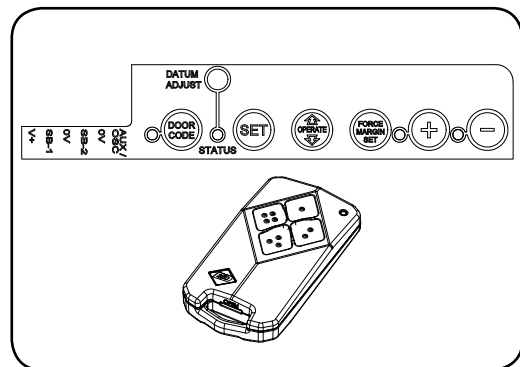

Fig. 30
- Press the same transmitter button again. The DOOR CODE LED will illuminate for one second and then go out, and the courtesy light will also switch off. This indicates the code has been stored (Fig. 30).